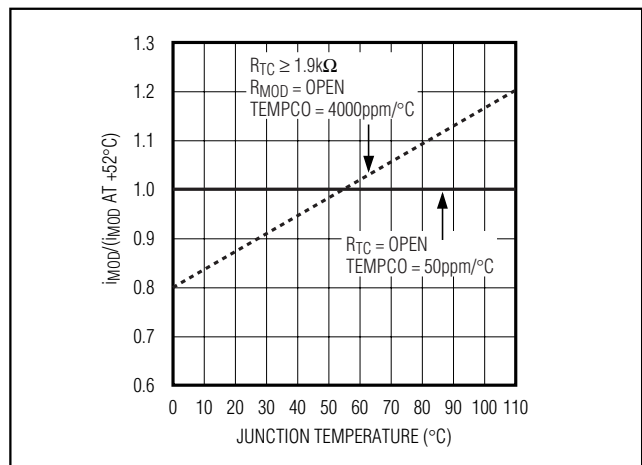

Figure 6. Modulation Current vs. Temperature for Maximum and Minimum Temperature Coefficient
The amplitude of the modulation current is set with resistors at the MODSET and temperature coefficient (TC) pins. The resistor at MODSET (R_{MOD}) programs the temperature-stable portion of the modulation current, and the resistor at TC (R_{TC}) programs the temperature-increasing portion of the modulation current. Figure 6 shows modulation current as a function of temperature for two extremes: R_{TC} is open (the modulation current has zero temperature coefficient), and R_{MOD} is open (the modulation temperature coefficient is 4000ppm/°C). Intermediate temperature coefficient values of the modulation current can be obtained as described in the *Design Procedure* section. Table 2 is the R_{TC} and R_{MOD} selection table.